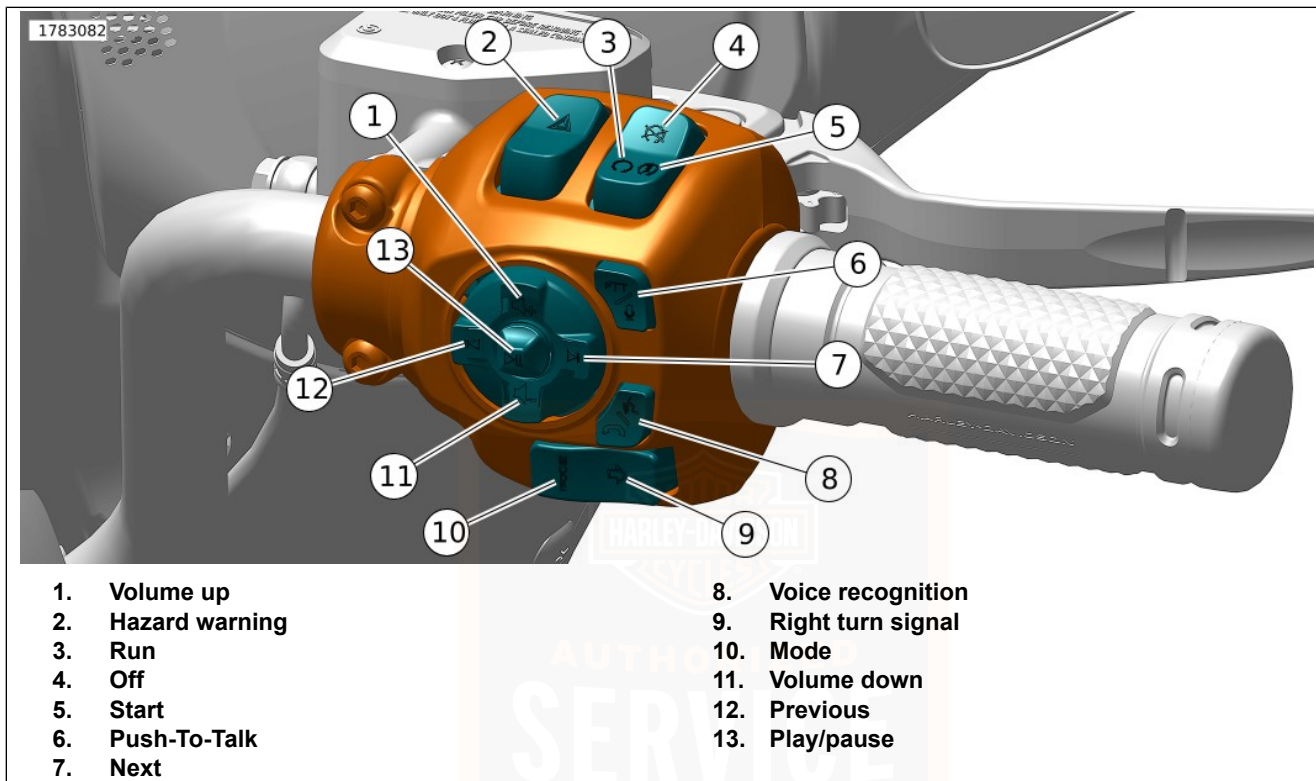

Figure 32. Right Hand Control Module (RHCM)
See Figure 32. The hazard warning switch (2) is used to leave a stranded motorcycle in the 4-way flashing mode. With the flashers, the motorcycle can be left with the ignition off until assistance is found. Refer to Table 26.
1. With the OFF/RUN/START switch in the RUN (3) position, press the hazard warning switch to activate the 4-way flashers.
2. Turn OFF/RUN/START switch to OFF (4). The 4-way flashers continue for 2 hours or until cancelled by the rider.
See Figure 32. Press the engine OFF/RUN/START switch to OFF (4) to shut off the engine. Refer to Table 26.
See Figure 32. Push the engine OFF/RUN/START switch to RUN (3) to enable engine start and run. The engine OFF/RUN/START switch must be in the RUN position to start or operate the engine. Refer to Table 26.
See Figure 32. Press the right turn signal switch (9) to activate the right turn signal. Refer to Table 26.
See Figure 32. Press the volume up (1) button to increase volume. Refer to Table 26.
See Figure 32. Press the next button (7) to select the next media file. Refer to Table 26.
See Figure 32. Press the volume down (11) button to decrease volume. Refer to Table 26.
See Figure 32. Press the previous button (12) to select the previous media file. Refer to Table 26.
See Figure 32. Press the play/pause button (13) to play or pause the current media file. Refer to Table 26.
See Figure 32. The Push-To-Talk (PTT) switch (6) is used to operate the rider/passenger intercom on equipped vehicles. Refer to Table 26.
1. See Figure 32. Switch the OFF/RUN/START switch to RUN (3). Shift the transmission to neutral. The neutral (green) indicator illuminates. See OPERATION > STARTING THE ENGINE (Page 120).
2. Press the OFF/RUN/START switch to START (5) to operate the starter motor. Refer to Table 26.
See Figure 32. The voice recognition switch (8) activates the voice recognition features on a connected mobile device. Refer to Table 26.
See Figure 32. Press the mode button (10) to change the ride mode. See OPERATION > RIDE MODES (Page 108). Refer to Table 26.
See Figure 32. Use the Right Hand Control Module (RHCM) buttons to navigate volume up (1), volume down (11), next (7), previous (12), play/pause (13) on the RHCM to adjust audio media settings. See OWNER MANUAL > INFOTAINMENT CONTROL UNIT (IFCU) OPERATION (Page 143).